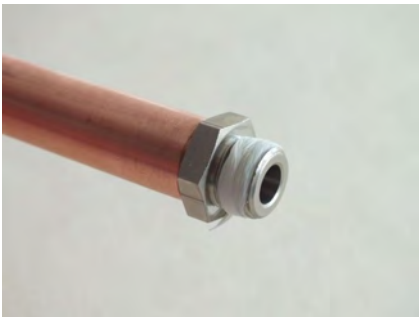

Fig. 9: Pipe connection with sealing thread
- ⇒ The pipe line is now ready for installation (Fig. 9)